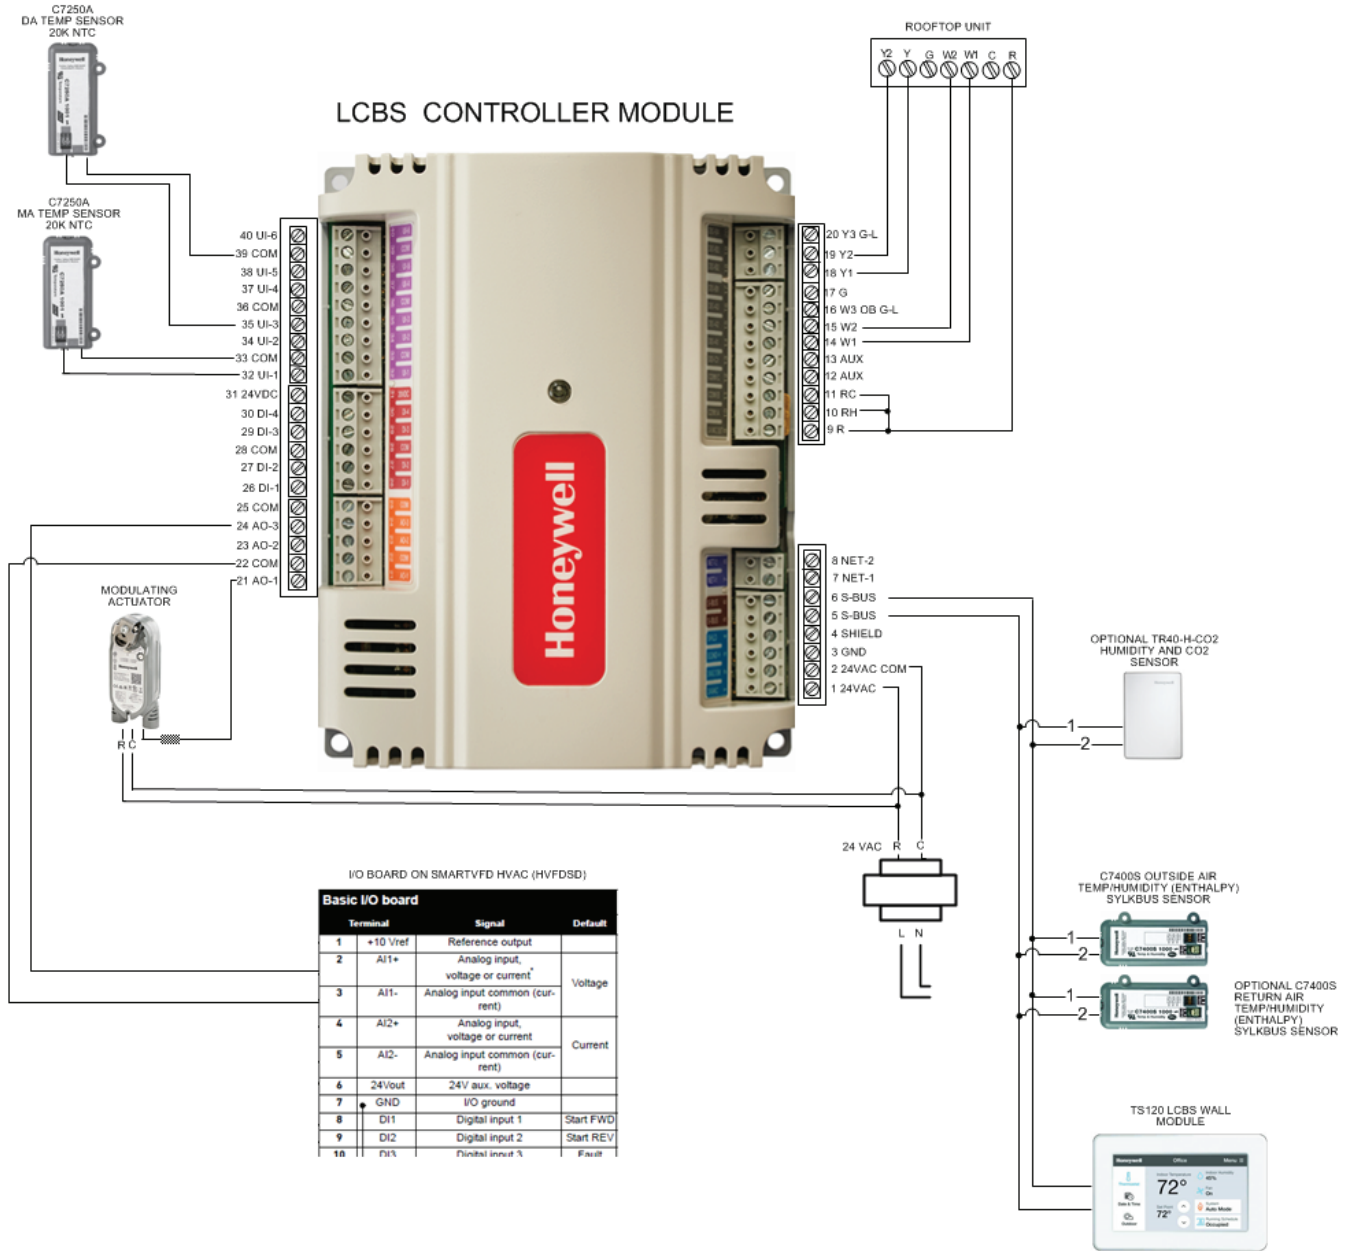

Fig. 1. LCBS with Economizer and Multi-Speed Fan Control (option 1)
1. Install sensors needed for dry bulb or enthalpy economizer control. Refer to Figure 1
1. To configure Demand Control Ventilation install a CO2 sensor such as the one listed in Table 1 and shown in Fig. 1.